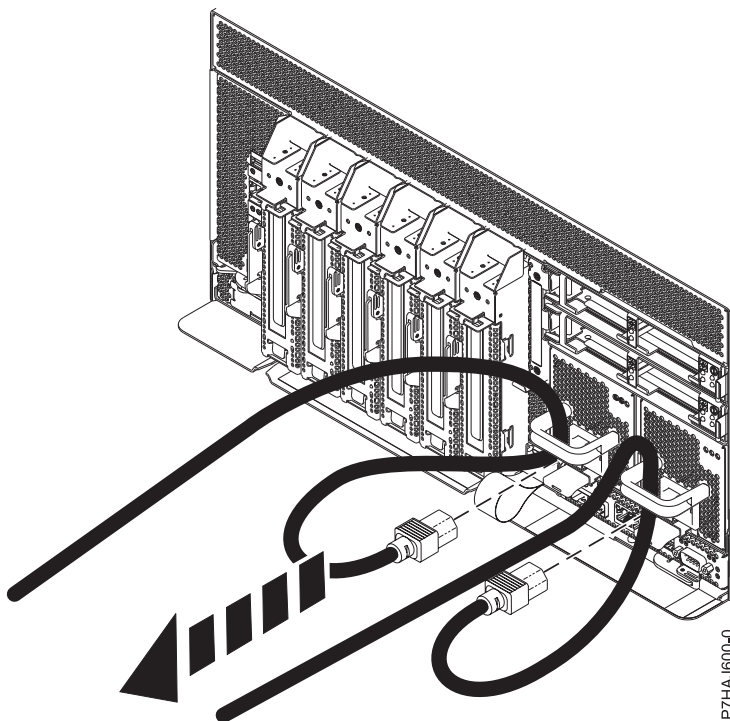

Figure 60. Removing the power cords
3. Disconnect the power cords from the system unit as shown in Figure 60.